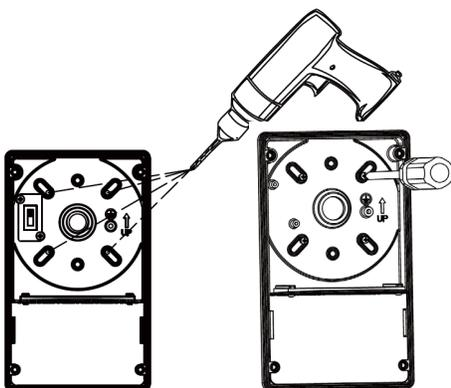

Fig. 4
5. Affix the bottom plate on the pre-drilled wall or junction box (Fig. 4).